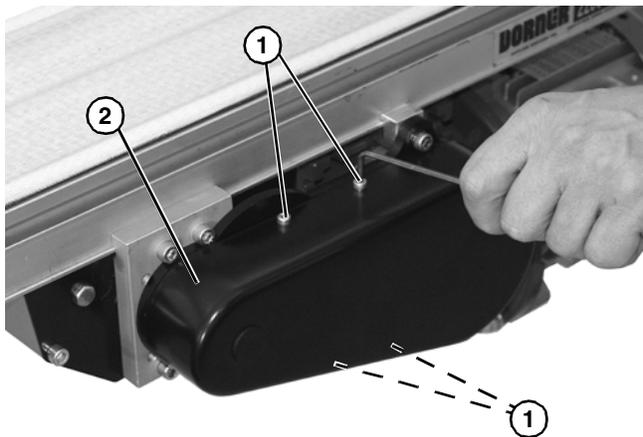

Figure 13
1. Remove four (4) screws (Figure 13, item 1) and remove cover (Figure 13, item 2).
4. Install cover (Figure 13, item 2) with four (4) screws (Figure 13, item 1). Tighten screws to 35 in-lb (4 Nm).
- Install cover (Figure 13, item 1) with four (4) screws (Figure 13, item 2). Tighten screws to 35 in-lb (4 Nm).
- Remove four (4) screws (Figure 13, item 2) and remove cover (Figure 13, item 1).